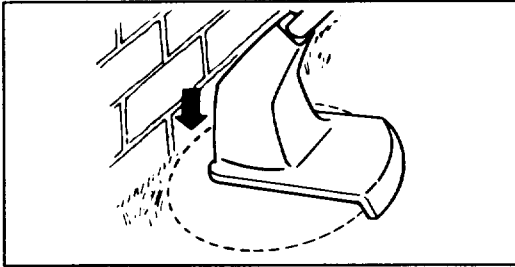

Figure 6
7. **DO NOT FORCE THE UNIT.** Allow the very *tip* of the nylon line to do the cutting (especially along walls) (Fig. 6). Cutting with more than the tip will reduce cutting efficiency and overload the motor.